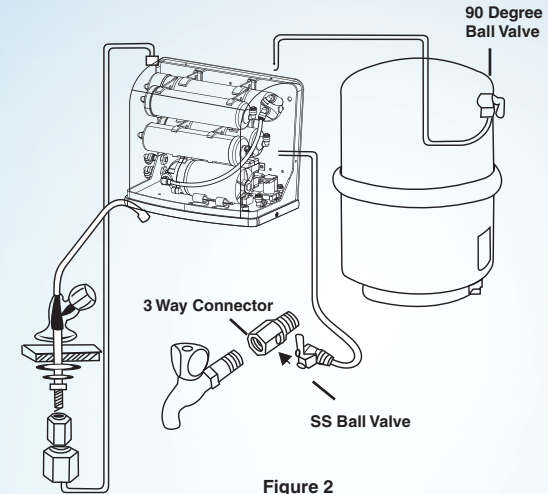

Figure 2
- Connect the 3-way connector to the raw water supply as shown in Figure 2. The threaded end of the 3-way connector is fitted in line with the raw water supply. The other end can be connected to a tap or can be plugged off if not required.